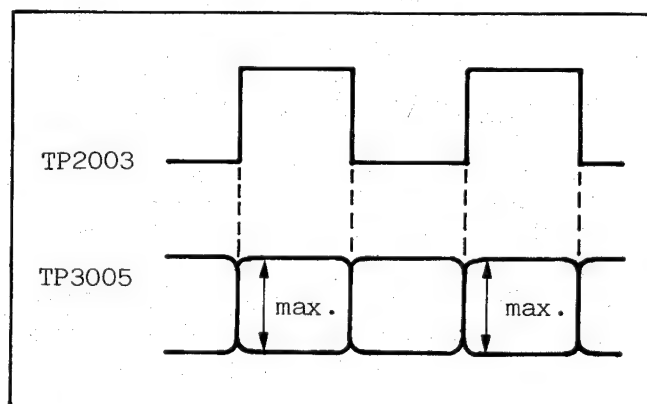

Fig. M29 Horizontal Position Adjustment of A/C Head-(2)
- Playback the monoscope portion of the alignment tape (VFMS0001H6) and note the envelope which corresponds to the high period of the Head Switching Signal at TP2003 as shown in Fig. M29. Once note, use only this envelope for the subsequent Adjustments.